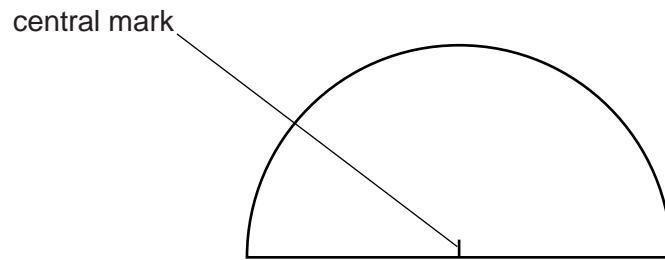

Fig. 1.2
- 2 Use a fine permanent marker pen to make a small mark on one of the flat faces of the block at the centre of the semicircle, as shown in Fig. 1.2.